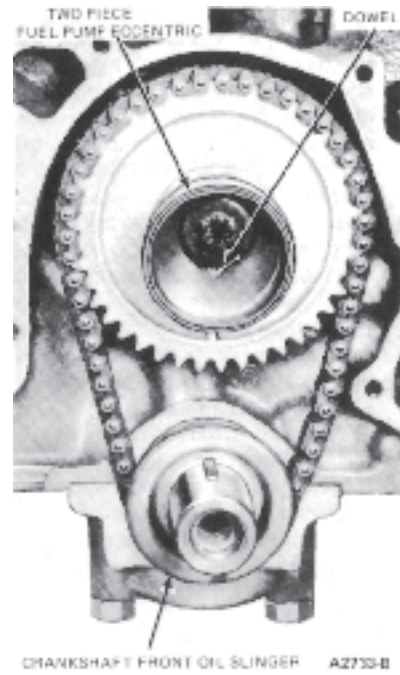

Fig. 24 Fuel Pump Eccentric and Front Oil Slinger Installed
2. Install the fuel pump eccentric, washers and camshaft sprocket cap screw. Torque the sprocket cap screw to specifications. Install the crankshaft front oil slinger (Fig. 24).